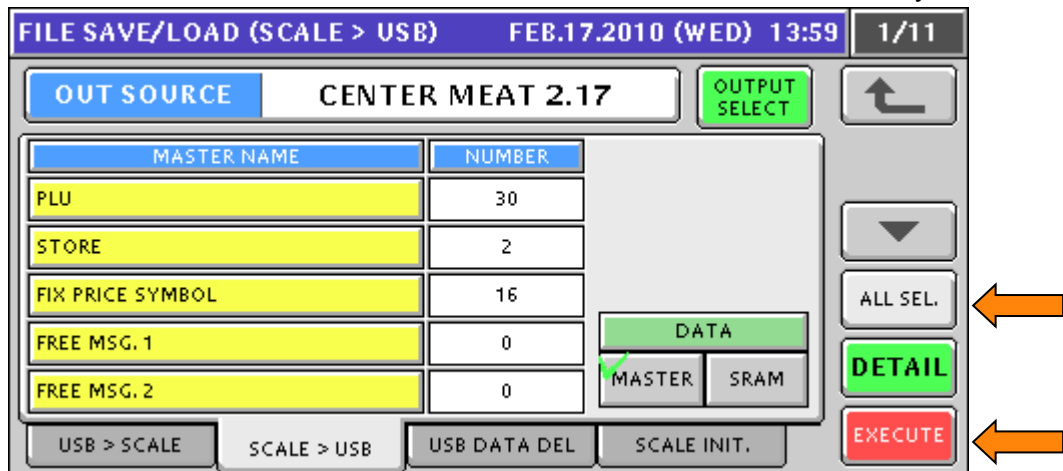

Figure 4. Select All Data for Output
- m. Press the **ALL SEL.** button to select all files for output. See Figure 4.